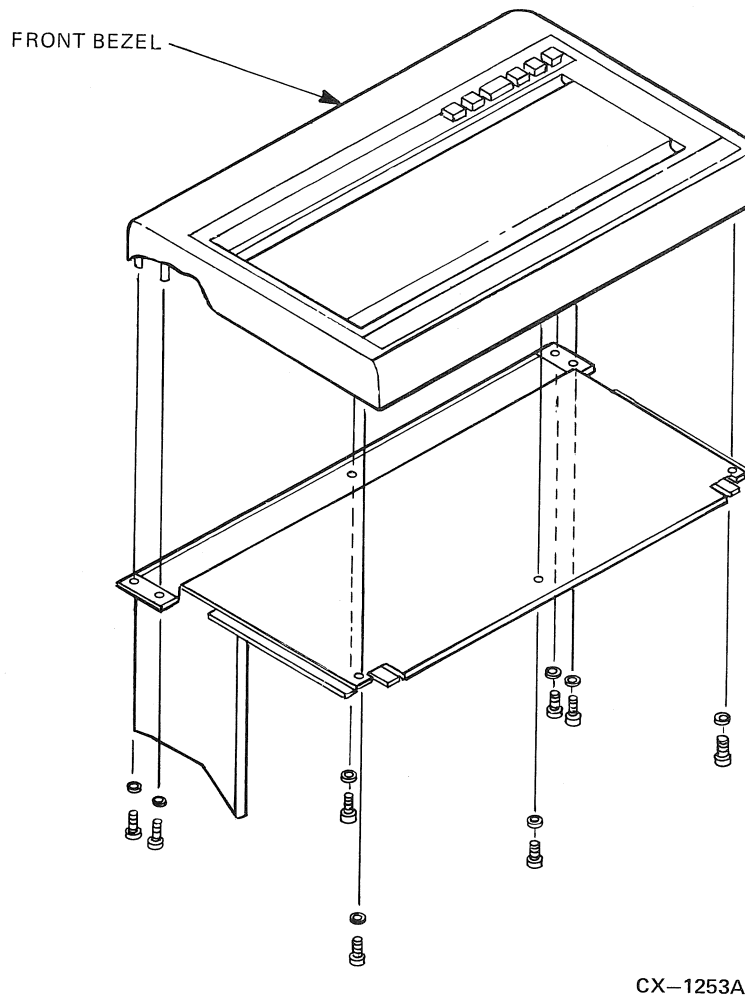

Figure 6-12 RA82 Front Bezel Removal
15. Remove and discard the eight screws that hold the bezel in place. Refer to Figure 6-12 for screw location.